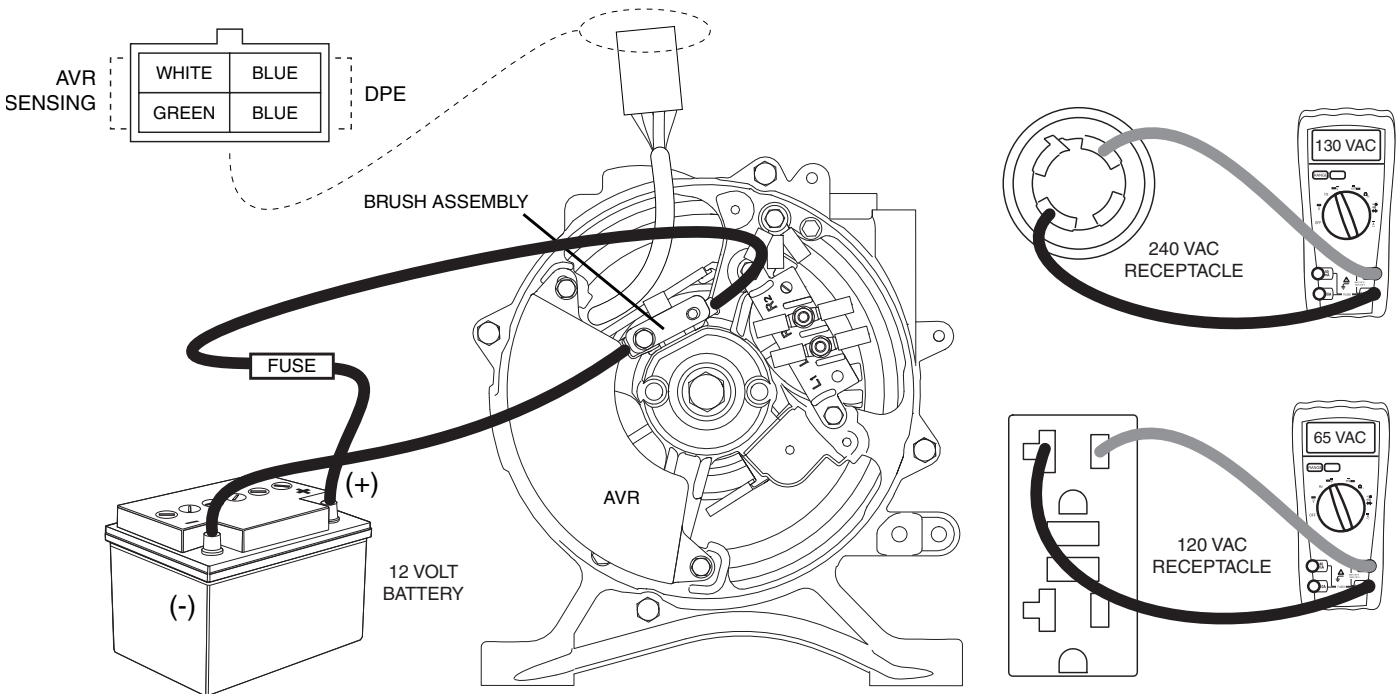

Figure 2-4. Jumper Wires Between Battery and Brush Assembly
5. See Figure 2-4. Connect meter test leads across the 240 VAC receptacle so the leads read line-to-line voltage. If the unit only has 120 Volt outlets, connect meter test leads from line-to-neutral and measure for 120 VAC.